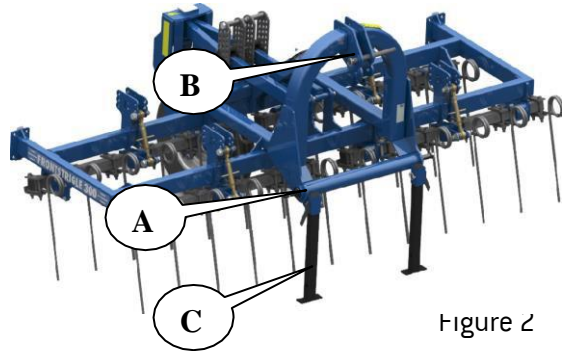

Figure 2
The lifting arm is mounted first using the hitch pins (A), after which the top mount pin (B) is mounted. Remember to raise the support legs and secure them with stud and cotter pin (C). See figure 2.
The front harrow shall be lowered onto a fixed surface before disconnecting and its sides shall be folded down (H model). Disconnect hydraulic hoses (500H & 600H models) and lifting arm/top mount. Lower the support legs and secure with studs and cotter pins, see figure 2.